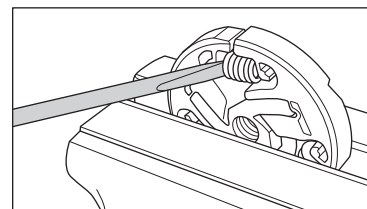

Fig 16
Secure the clutch in a vice as shown in figure 16. Carefully remove the clutch springs. Remove the clutch shoe springs from the side that does not have text.
- Check the thickness of the clutch shoes by measuring them with slide callipers across the whole clutch hub. If the thickness is below 60 mm, the clutch must be replaced. See figure 16.